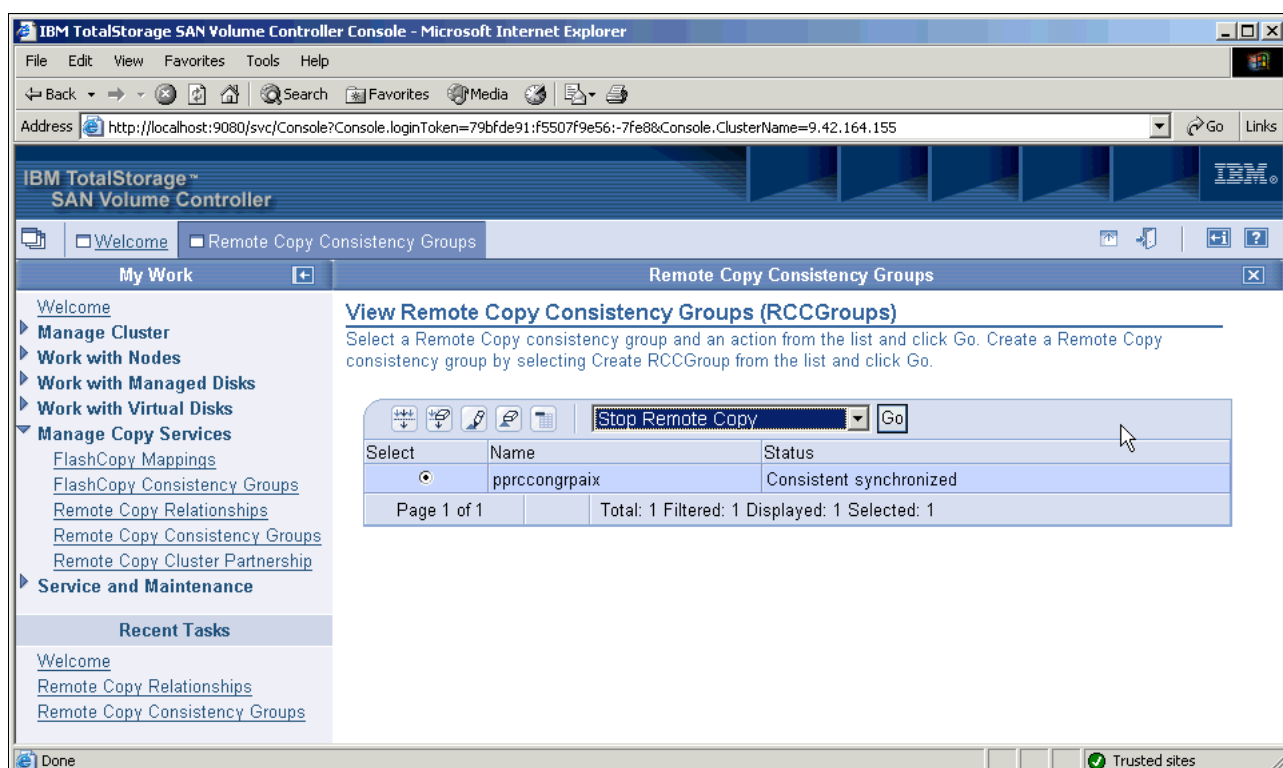

Figure 11-35 Stopping the consistency group pprccongrpaix
1. As shown in Figure 11-35, under My Work, select **Manage Copy Services** and select **Remote Copy Consistency Groups**.